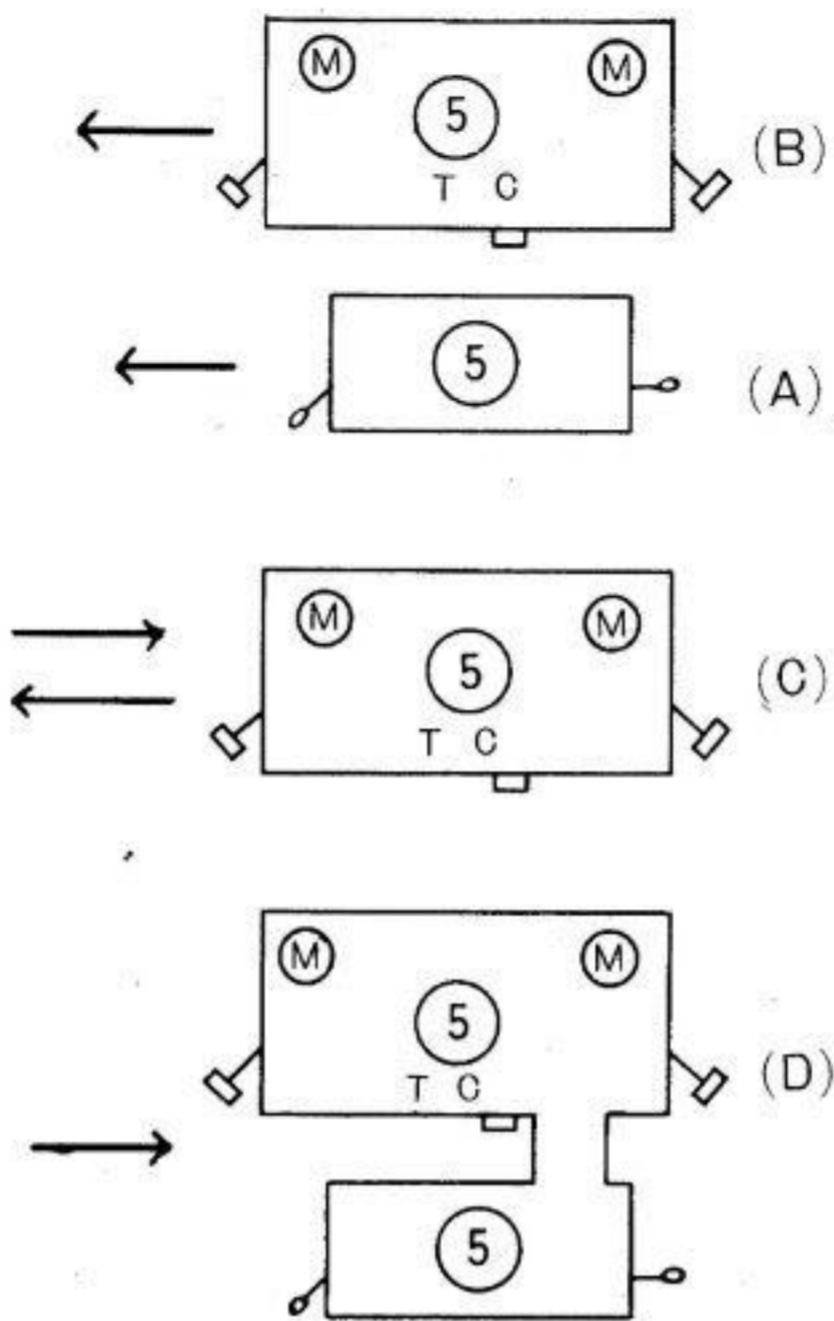

Fig. 70
Carriage settings as follows (see Fig. 70—(A) and (B)):
(Fig. 70—(B))
(Fig. 70—(A))
(Fig. 70—A).
Then move machine carriage also from right to left as shown in Fig. 70—B
(Fig. 70—C)
(Fig. 70—D)
(Fig. 70—E)